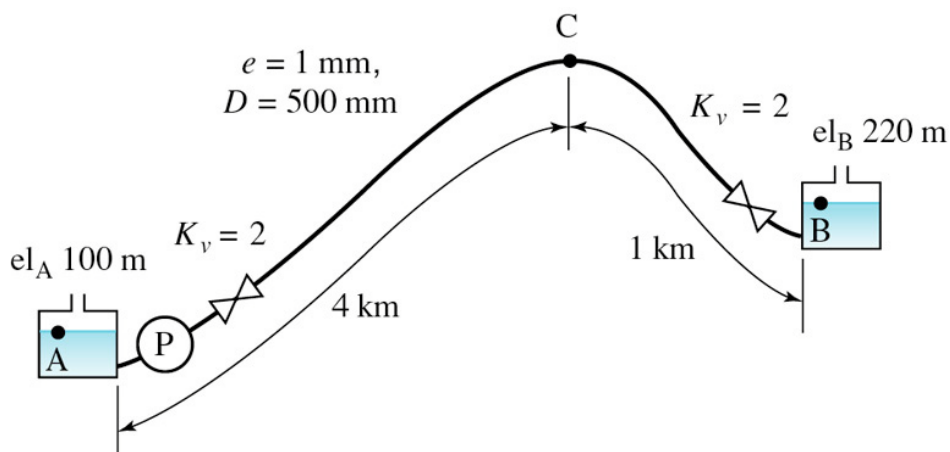

Figure 10 / Rajah 10
7. Gasoline is being pumped at 400 L/s in a pipeline from location A to B as shown in Figure 10. The pipe follows the topology as shown, with the highest elevation shown at location C. The only contributions to minor losses are the two valves located at the ends of the pipe. If $S = 0.81$, $\nu = 4.26 \times 10^{-7} \text{ m}^2/\text{s}$, $p_v = 55.2 \text{ kPa}$ absolute and $p_{atm} = 100 \text{ kPa}$, then: